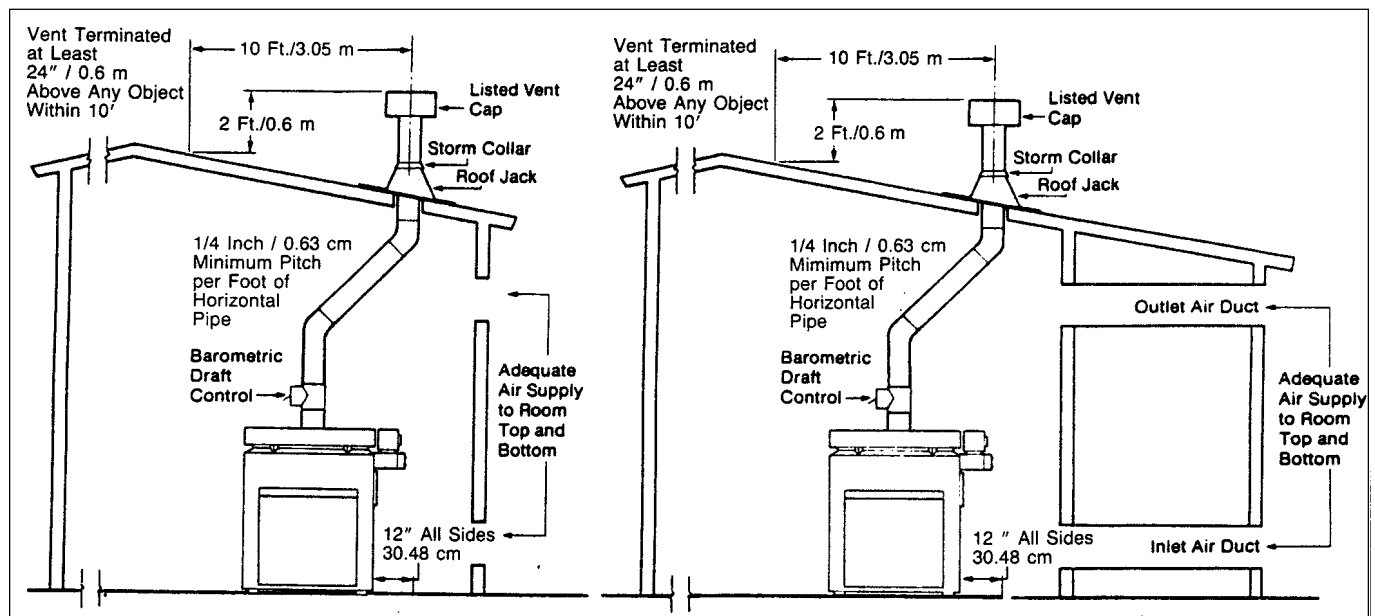

Figure 5. Combustion Air, Indoor Installation.
In general, these requirements specify that the room in which a heater is installed should be provided with two permanent air supply openings; one within 12 inches (305mm) of the ceiling, the other within 12 inches (305mm) of the floor. All indoor installations must have openings to outside air for combustion, ventilation, and dilution of flue gases from inside the building (see Figure 5 and Table 2). Water Pik Technologies does not recommend indoor installations that do not provide combustion air from outside the building.
The XL-3 model DP3000 has an input rating of 315,000 BTU/Hr. The vent opening requirements for the XL-3 heater are summarized in Table 2. Note that the areas specified are net free areas and should be increased when the openings are covered by screens, louvers, grills or other protective covers (see Figure 5 and Table 2 notes).
The vent collar outlet is to be connected to an unobstructed barometric draft control and vent pipe of the same diameter, terminating in a chimney or directly outside the building. The vent must terminate at least two (2) feet (0.6 m) above the highest point of the roof or other object that is within ten (10) feet (3.0 m) of the vent termination. The vent pipe must have a listed vent cap which allows a full equivalent opening for flue products (see Figure 5).
12. Lift out and rotate the heat exchanger (12). Make sure the insulation strips that were under the header bars stay in position.
13. Rotate the conduit assembly and attach it to the switch box (11). Tighten the compression nut on the other end.
14. Reinstall the screws (10) through the hold-down clips at each corner of the heat exchanger. Put the insulation back in the corners.
15. Reinstall the drain extensions (8) and 1/4" plug (9) in the positions shown in Figure 5.
16. Straighten the siphon loop tubing (7) and install it in the header at the original position of the 1/4" drain plug (see Figure 5).
17. Remove the vent blades (13) from both gap spacers. Reinstall the vent blades using the previously unoccupied holes in each of the gap spacers.
18. Replace the gap spacers (6) on the opposite side of the heater from their original position.
19. Reinstall any previously removed rubber grommets and replace siphon loop cover (5).
20. Replace the heat exchanger end baffles (4).
21. Reinstall the flue collector assembly (3).
22. Replace the top assembly and fasten it in place with the eight screws (2) previously removed. Install the inner stack
23. Reinstall the inner stack (1). Install the chimney cap assembly, or barometric draft control if one was removed.